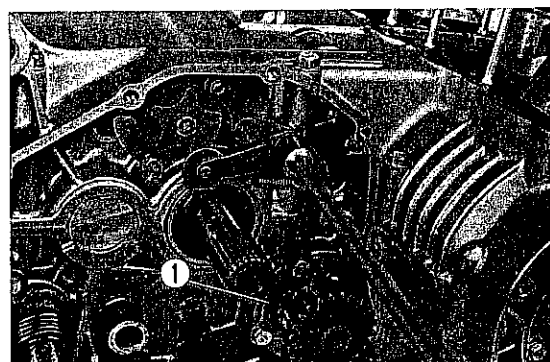

Fig. 373 ① Bearing set plate on primary shaft side
11. As shown in Fig. 373, install the gearshift drum stop spring to the drum stop and the neutral stop and tighten the drum stop bolt, and neutral stop bolt securely. Also tighten the bearing set plate on the primary shaft side as shown in Fig. 373.